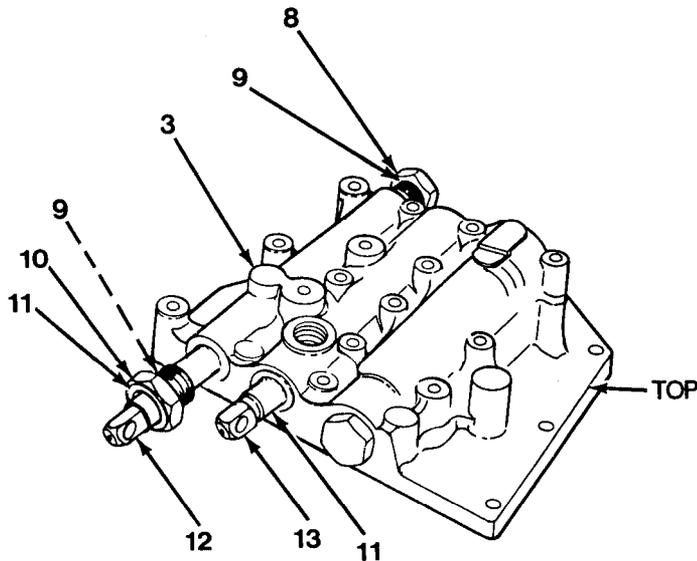

Figure 11-3
5. Remove plug (8) from bottom bore of valve body (3, Figure 11-3).
6. Remove O-ring (9) from plug (8).
7. Remove plug (10) from bottom bore of valve body (3).
8. Remove O-ring (9) from plug (10).
9. Remove oil seal (11) from plug (10).